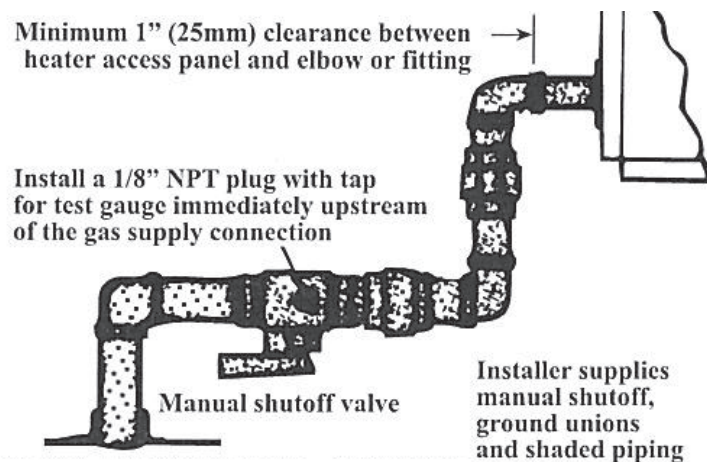
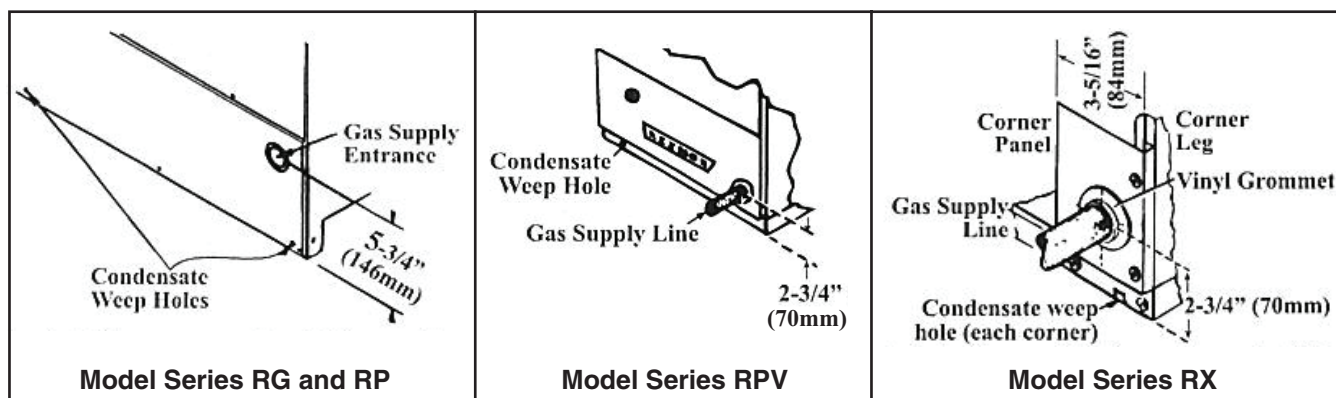

Figure 15. Connecting Gas Piping
Figure 16. Gas Connection Location
- Install a ground joint union and manual shutoff valve (see Figure 15) upstream of the unit control system. The 1/8-inch plugged tapping in the shutoff valve provides a connection for the supply line pressure test gauge. The National Fuel Gas Code requires the installation of a trap with a 3-inch (minimum) drip leg. Local codes may require a drip leg longer (typically 6 inches) than 3 inches.
- The gas connection (**not** gas supply line size) to a single-stage valve (see Figure 15 and Figure 16) is 1/2-inch for propane gas. For natural gas, the connection is 1/2-inch for unit sizes 75–250 and 3/4-inch for unit sizes 300–400.
- Install the gas supply piping (see Figure 16) so that when the union is disconnected, the supply pipe will not interfere with the removal of the burner rack, which slides out of the control side of the furnace.